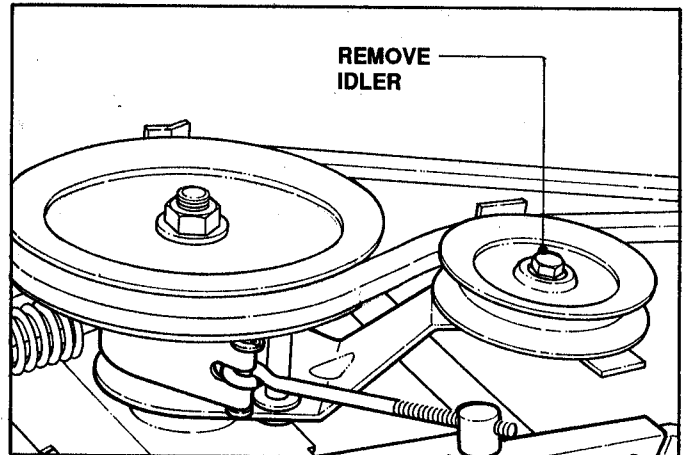

FIGURE 4.22
- Remove idler. See Figure 4.22.